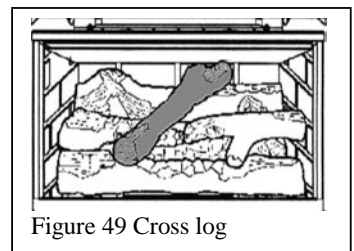

Figure 49 Cross log
7. Place "branch end" of the cross log on the pin located on the center of the rear log and the other end in the locating pocket on the left side of the front log as shown in figure 49.